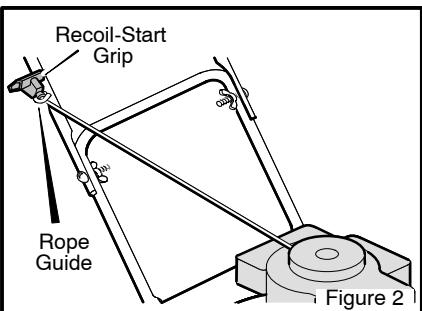

Figure 2
5. Hold the engine stop lever against the handle. Slowly pull the recoil-start grip. To attach the **recoil-start grip** to the **rope guide**, twist the rope through the **rope guide** mounted on the right side of the handle (Figure 2).